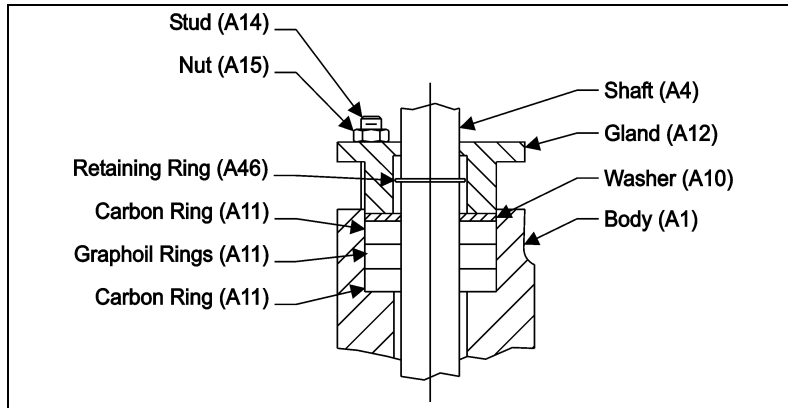

Figure 6 — Packing Option (G1)
- a. Place the packing in the body, one ring at a time, in the configuration shown in Figure 6 — do not lubricate.